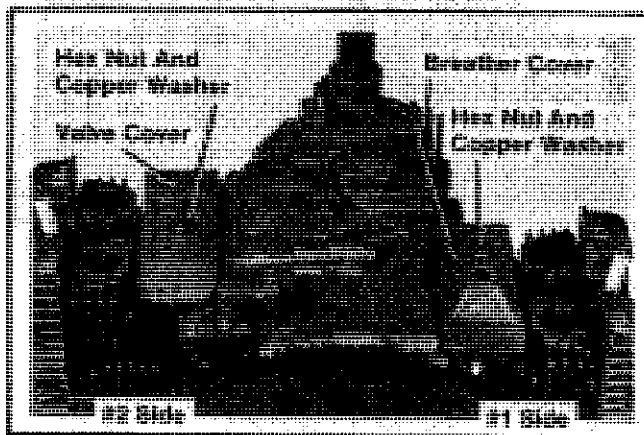

Figure 9-12. Removing Breather And Valve Cover.
1. Remove the hex nut, copper washer, breather cover, and gasket. Refer to Figure 9-12.
1. Remove the hex nut, copper washer, valve cover, and gasket. Refer to Figure 9-12.